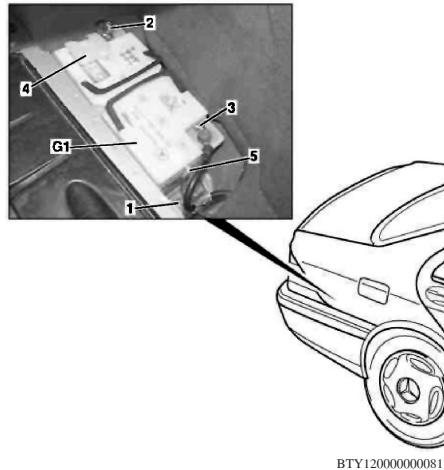
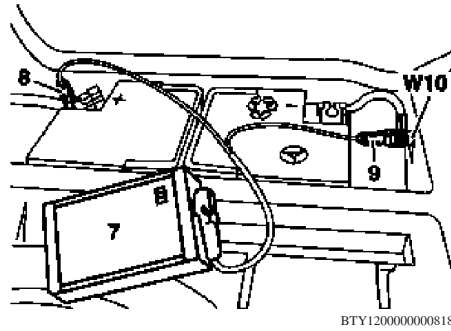

Fig. 1 Battery removal
Fig. 2 Quiescent current retention unit installation
3. Remove screw (1) and holder, **Fig. 1**.
- a. Switch on quiescent current retention unit (7), **Fig. 2**.
- b. Connect positive terminal (8) of quiescent current retention unit to positive cable of battery, **Fig. 2**.
- c. Connect ground terminal (9) of quiescent current retention unit to battery ground (W10), **Fig. 2**.
5. Disconnect ground terminal (3) at battery and insulate ground terminal with insulation tape.
6. Remove gas vent line (5) from battery (G1), **Fig. 1**.
7. Remove positive pole cover (4) upward, **Fig. 1**.
8. Disconnect positive terminal clamp (2) from battery, **Fig. 1**.
2. Connect positive terminal clamp to battery. Connect positive lead (2) first, then ground lead (3), **Fig. 1**.
6. Install holder and screw (1), **Fig. 1**.